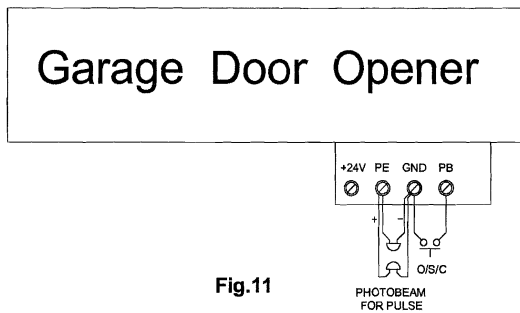
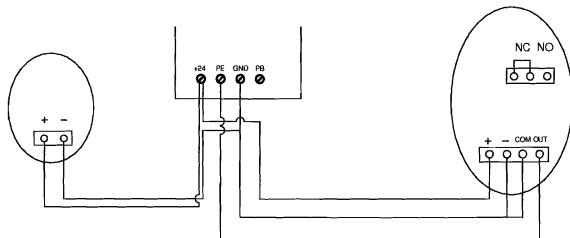

Fig.11
Fig. 12
Connecting a touch off switch to this terminal (Fig.11), you can use the switch when maintaining or the transmitter is left in garage.
3. Photo beam/switch control connection (Fig.11, Fig.12)